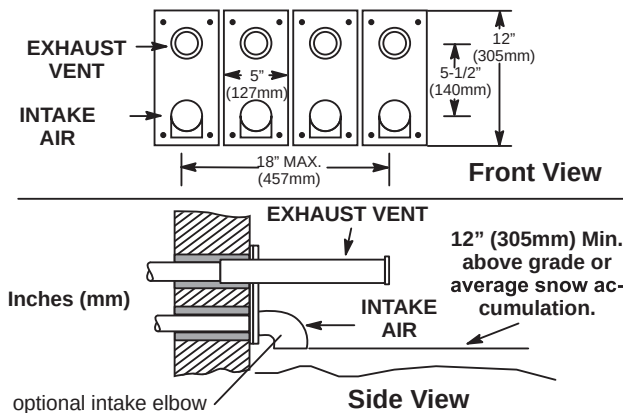

Figure 25. Optional Vent Termination for Multiple Unit Installation of Direct Vent Wall Termination
8. A multiple furnace installation may use a group of up to four terminations assembled together horizontally, as shown in **Figure 25**.